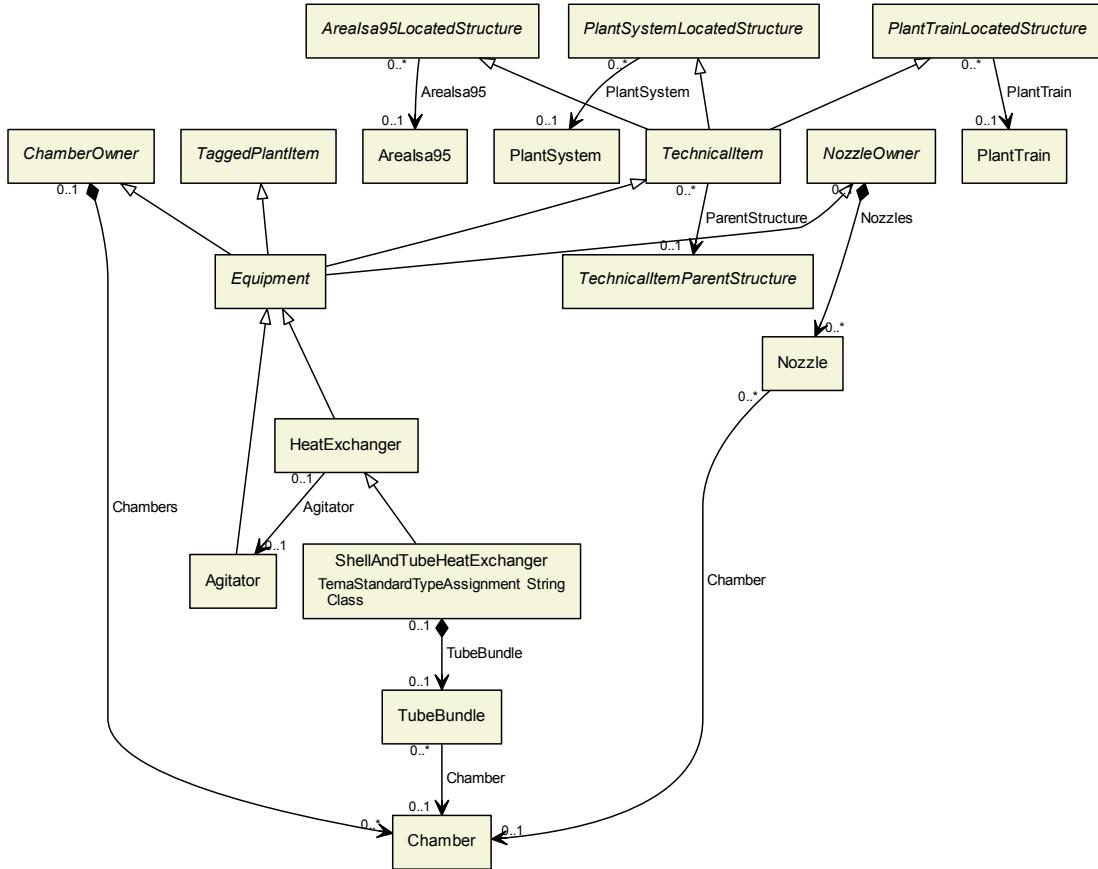

Figure 2.1.: Excerpt of the DEXPI information model: `ShellAndTubeHeatExchanger` and related classes.
The information model is organized in a way similar to UML class diagrams. Figure 2.1 shows an excerpt of the information model.
- The core element of the models are *classes*. Classes are represented by rectangular boxes. The first text line in a box gives the name of the class. In Fig. 2.1, there are 6 classes, including for instance HeatExchanger and HeatExchangerShell.
The value of an attribute of type *String* is a sequence of characters. For example, the Equipment class in Fig. 2.1 has a *String* attribute called FunctionalObjectDescriptionAssignmentClass. This attribute can be used to give a textual description of the function of an instance of Equipment, e.g., "gas cooler".
Although the objects in a P&ID are abstract objects (they are specifications and/or representations of real objects), their attributes comprise physical quantities such as design values.³ For example, the HeatExchangerShell class in Fig. 2.1 has an attribute LowerLimitDesignTemperature of type Temperature. Temperature is one of the DEXPI attribute types for physical quantities. For each of these attribute types, the information model contains several units of measurement. For consistency with ISO 15926 terminology, the units are